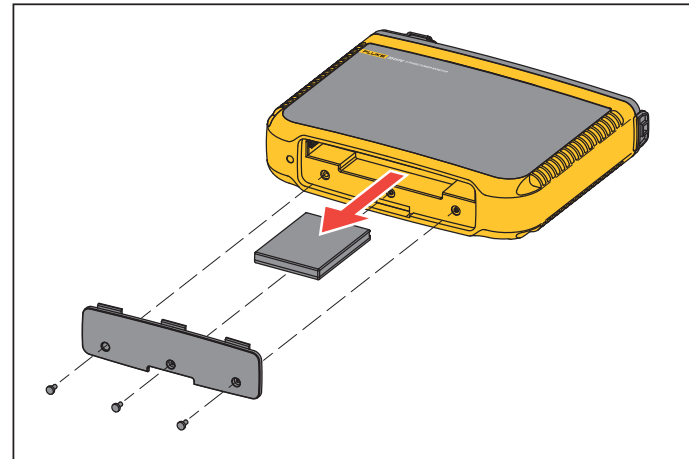

Figure 15. Battery Replacement
1. Unscrew the three screws and remove the battery door. See Figure 15.